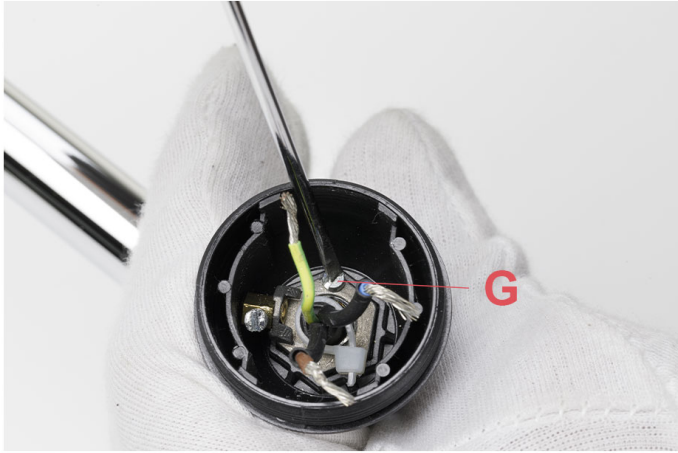

Fig.6
Connect the earth wire to the terminal (F) and then connect the electrical wires by respecting the polarities to the fitting (E) terminals (D). (Fig.6 page 15)